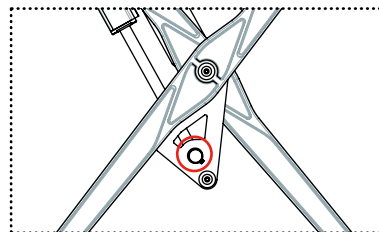

FIGURE 7
- ☐ Confirm that the Seeger washers on the lower motor holding shaft are not missing (see Fig. 7).